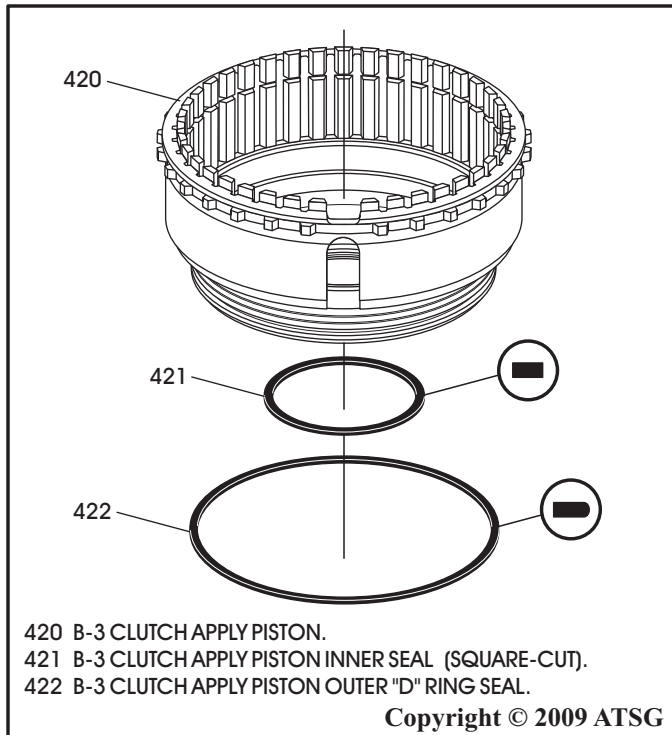

Figure 153
4. Install new square cut inner seal in B-3 clutch apply piston, as shown in Figure 153.
5. Install new "D" ring outer seal on B-3 clutch apply piston, as shown in Figure 153.